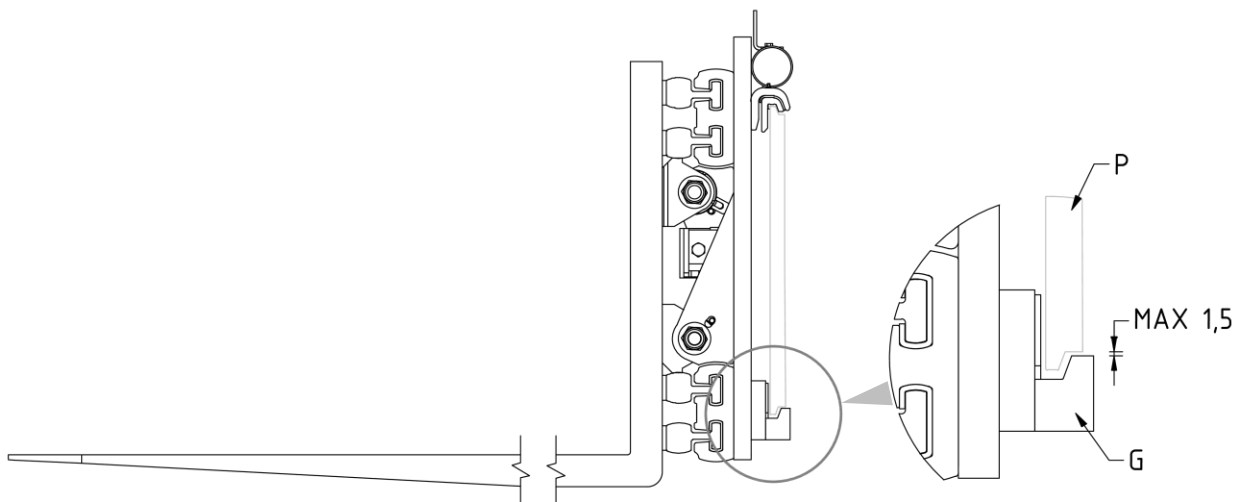

Figure 8
9. Screw on the 2 lower couplings **G** in such a way that their bodies also remains coupled to the lower part of the fork carriage **P** (with max. clearance of 1.5 mm, see detail *Figure 8*), tightening with the torque indicated in *Table 4*.